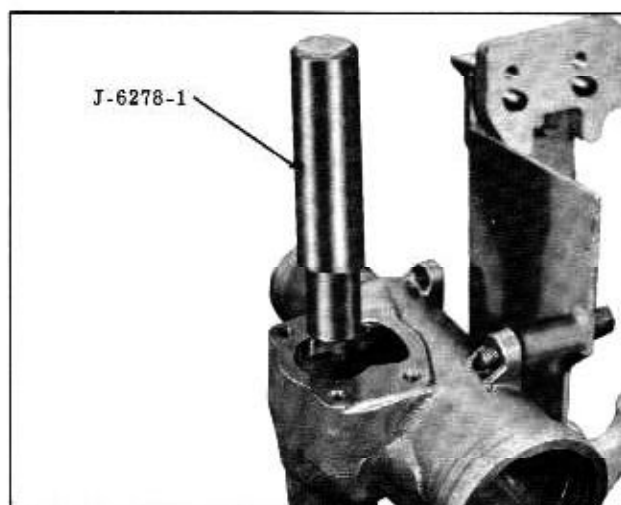

Fig. 4-60 Needle Bearing and Seal Removal
2. If pitman shaft needle bearing replacement is necessary, remove the seal retaining ring, outer steel washer, then drive needle bearing, seals and inner washer out with Tool J-6278-1. (Fig. 4-60)